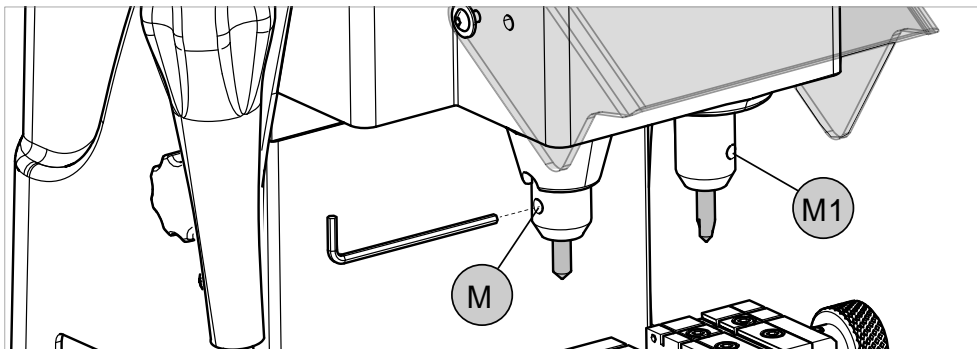

Fig. 10
- 1) Place the tracer point all the way into the left-hand sleeve and secure by tightening the grub screw (M) (fig. 10).